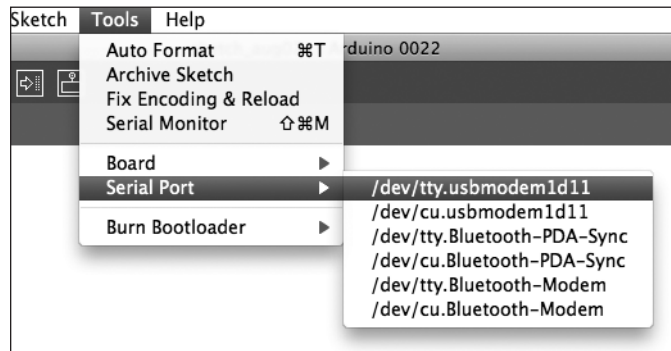

Figure 1-13: Selecting the USB port
3. You're almost there—just two more things to do before your Arduino IDE is ready to use. First, you need to tell the IDE which type of socket the Arduino is connected to. Select **Tools ▶ Serial Port** and select the `/dev/tty.usbmodem1d11` option, as shown in Figure 1-13.